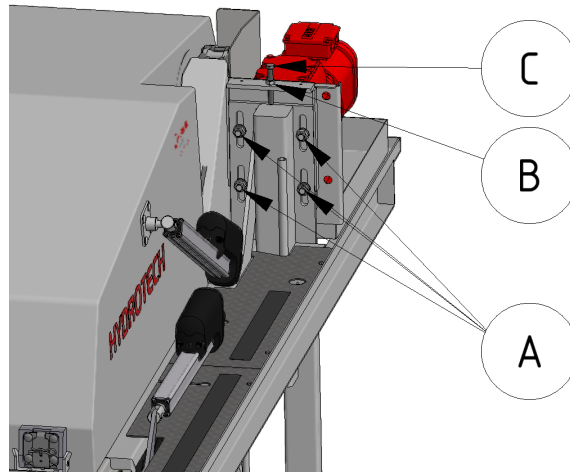

Figure 6.30 Engine suspension plate.
1. Turn the main power switch to the OFF (0) position and lock with a padlock.
2. Loosen the four nuts (A). See Figure 6.30.
3. Loosen the nut (B).
4. Adjust the tension of the chain using the screw (C).
5. Secure the screw (C) using the nut (B).
6. Tighten the four nuts (A).